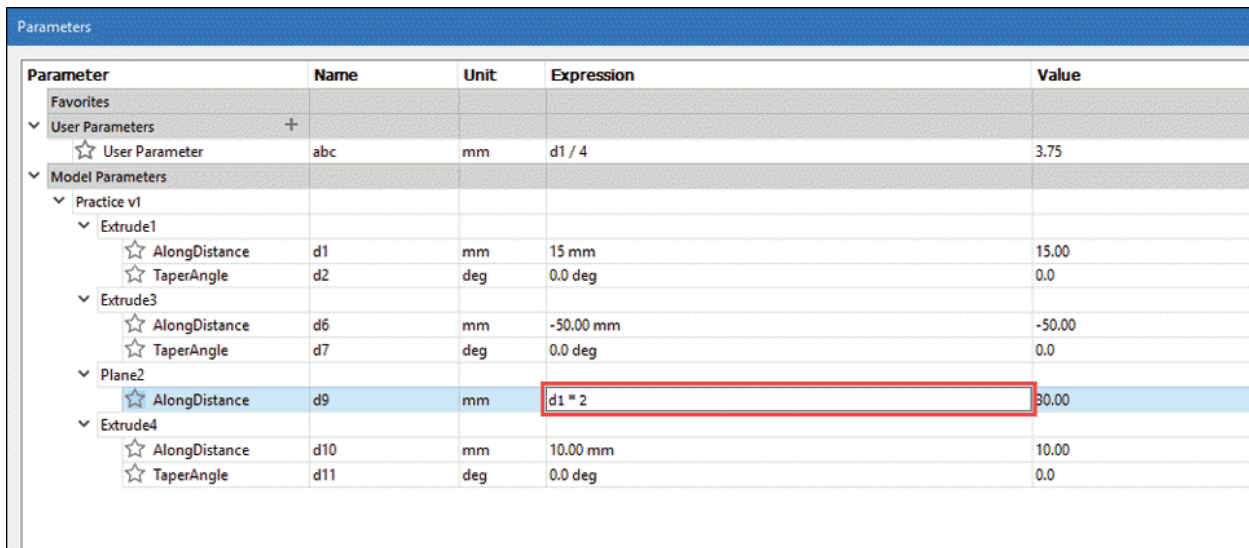

Figure-88. Entering equation
- If you want to apply equation in parameters then click on the dimension parameter and enter desired equation like $d1*2$; refer to Figure-88. Note that here d1 is dimension number applied automatically to the sketch dimension.